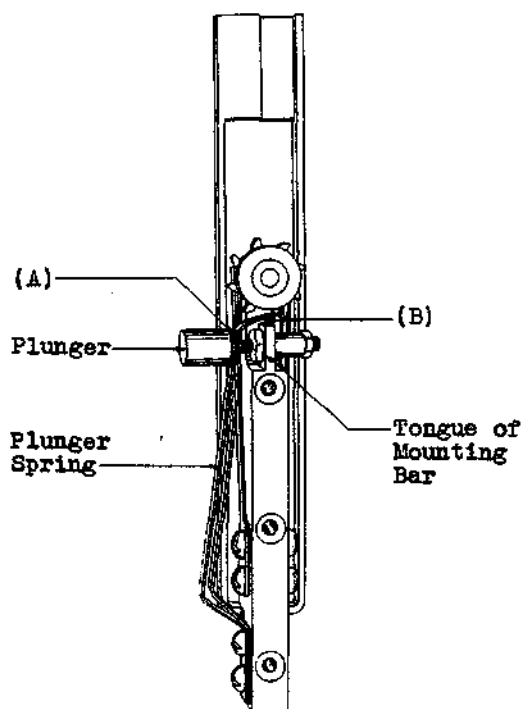

Fig. 6
**\*2.12 Plunger Shaft Clearance - Fig. 6 (A) -**
**\*2.13 Clearance Between Plunger Spring and Mounting Bar - Fig. 6 (B) -** The clearance between the plunger spring and the tongue on the mounting bar for all positions of the plunger spring shall be: